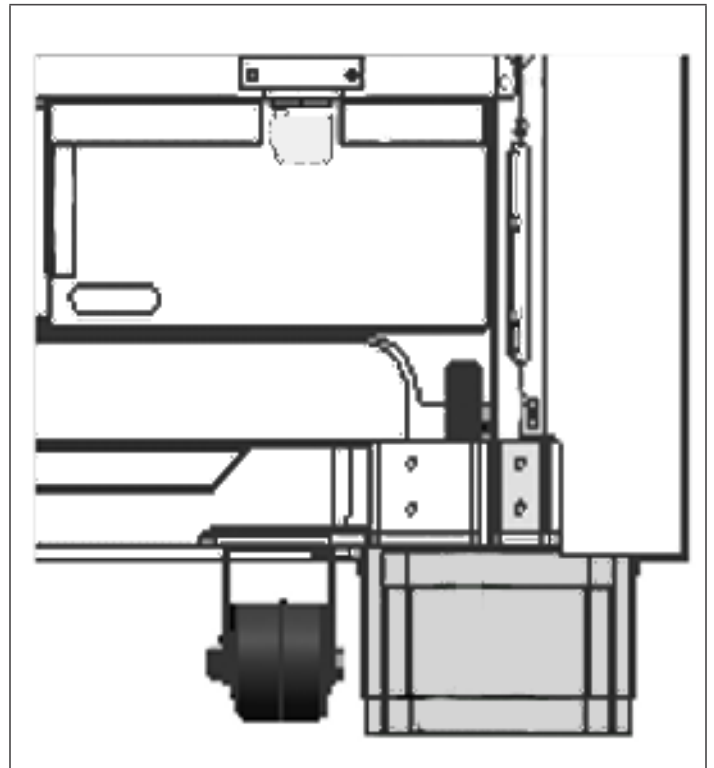

Figure 27: Leg Covers Installed
4. Slide the outer sleeve up while the inner piece remains on the floor. The mating part has dimples (that you cannot see) for which the holes of the larger sleeve should seize. You should feel a definitive click, letting you know that the apparatus has been mounted to the unit (Figure 27).